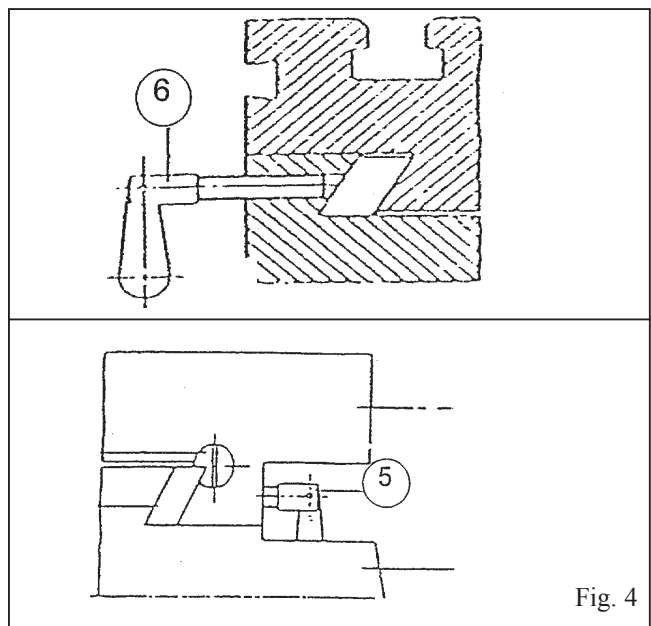

Fig. 4
1. When milling left and right, it is advisable to lock the fore and after table travel to insure the accuracy of your work. To do this, tighten the small leaf screw located on the right side of the table base (fig. 4).
2. To tighten the left and right travel of the table for fore and after milling, tighten the two small leaf screw on the front of the table base (fig. 4).